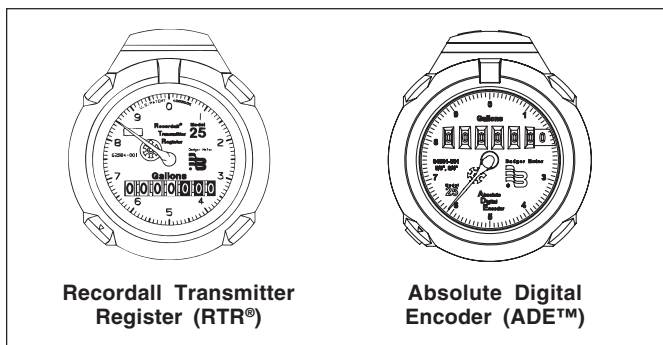

Figure 1
Each Pit ORION transmitter can be identified using the unique eight-digit serial number located on a tag attached to the wire harness. At the end of the serial number a letter 'M' or 'N' appears. This alpha character represents whether the transmitter is for Metal (M) or Nonmetal (N) pit lid applications. Each Badger Meter encoder is clearly identified on the face of the register with an assembly number, unit of measure and meter model (see figure 1). It is essential that the correct transmitter is used for the correct pit lid application. Failure to do so will result in a violation of FCC regulations.